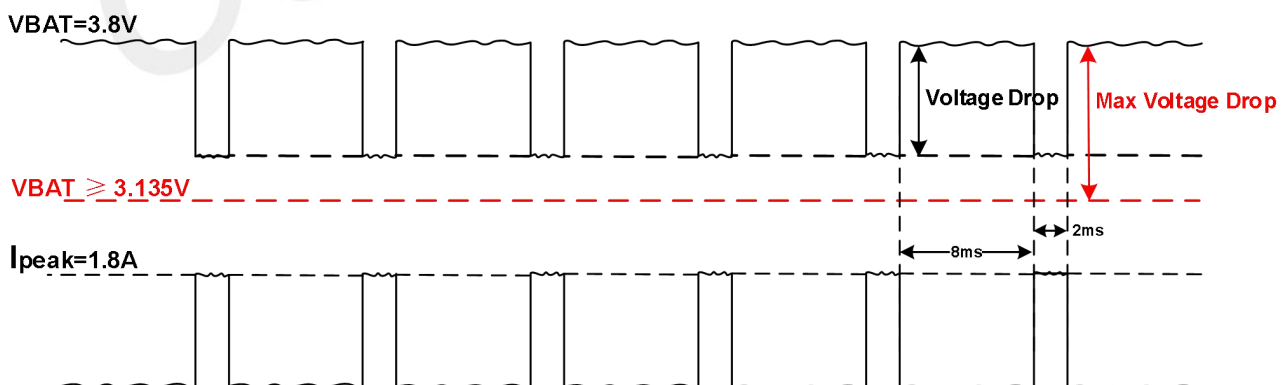

Figure 4: Power consumption at ENDC combination of B3 (20MHz) and N79 (100MHz)
2. The  $I_{peak}$  and voltage drop data in Table 6 and Figure 4 were tested use SIMCom EVB and connect instrument, module power supply voltage is 3.8V, ENDC combination is B3 (20MHz) and N79 (100MHz), subcarrier spacing is 30KHz.